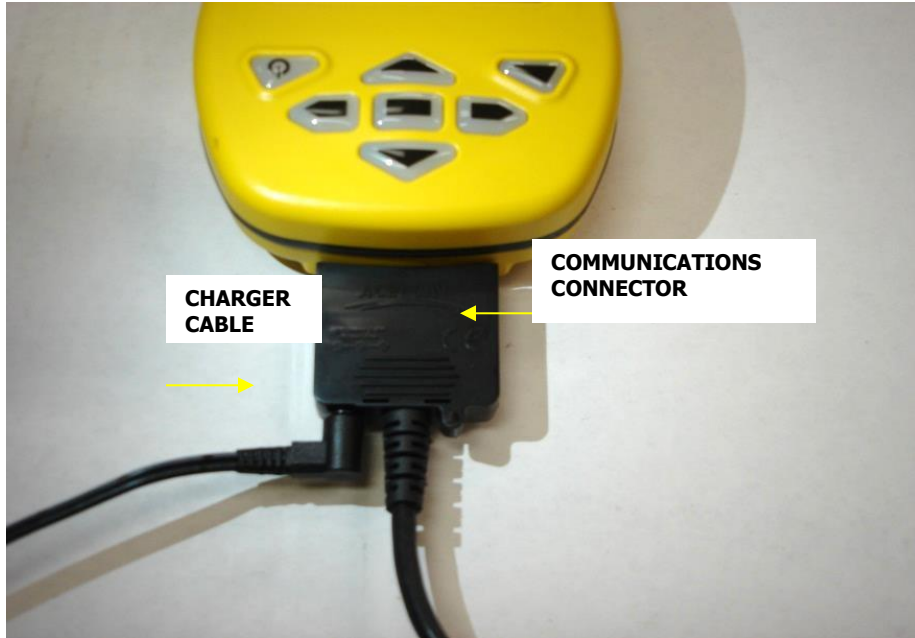

Figure 5: Charging Connection
1. Connect the charger cable to the communications cable (Figure 5).
2. Connect the communications cable to the unit (Figure 5).